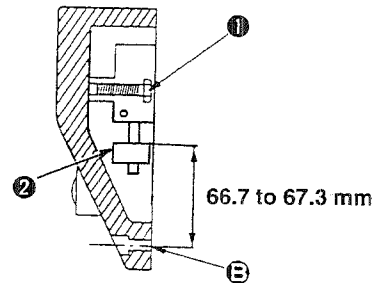
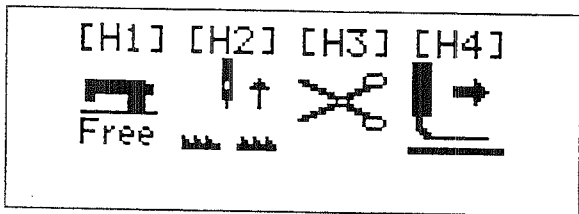
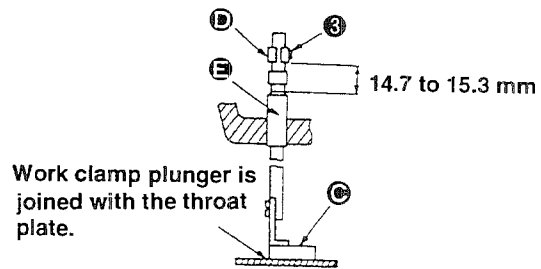

Fig. 3
Fig. 2 Sewing machine adjusting mode (1)
Fig. 4
<p>1) Turn ON the main power to the machine. Press M (mode screen key) on the operation panel. Then select pictgraph No. [MH] (sewing machine adjusting mode) on the mode selection screen.</p> <p>(Caution) While the operation panel is being operated (mode indication LED lights up), [MH] is not indicated. At this time, press machine ready key  to make the standby state (mode indication LED goes off). (Refer to Fig. 1.)</p> <p>2) Select the [H4] work clamp retreat key to move the work clamp away from the work clamp plunger section. (Refer to Fig. 2.)</p> <p>3) Confirm that the bottom of the work clamp plunger is spaced 18.5 to 19 mm from the top surface of the throat plate and approximately 0.5 mm from the tip of the needle.</p> <p>4) If the work clamp plunger is not positioned as described in the aforementioned step 3), set the [H1] key to the adjusting state (lamp flashes on and off). Then press  key to lower the work clamp plunger.</p> <p>5) Remove the face plate cover. Then press the R key to retract the air cylinder in the face plate cover. At this time, adjust screws ① and ② so that the tip end metal fitting of the cylinder is spaced 66.7 to 67.3 mm from center ③ of the tapped screw in the face plate cover. (Refer to Fig. 3.)</p> <p>6) Confirm first that work clamp plunger ④ is joined with the throat plate by the spring pressure given by the intermediate presser. Then, Adjust screw ⑤ so that the bottom end of presser bar position bracket ⑥ is spaced 14.7 to 15.3 mm from the top end of the presser bar lower bracket ⑦. At this time, slot on presser bar position bracket ⑥ should be faced toward you. (Refer to Fig. 4.)</p> <p>7) Set the [H1] key to the adjusting state (lamp flashes on and off), then press  key to extend the air cylinder. Then, attach the face plate cover to the machine arm. (Refer to Fig. 5.)</p> <p>8) Press the R key, and check the adjustment value of step 3).</p>	<p>1) If the work clamp plunger fails to go up sufficiently, the work clamp of the conveyor will interfere with the work clamp plunger.</p> <p>2) If the work clamp plunger goes up excessively, the top end of the needle will protrude from the bottom of the plunger. In this case, the needle tip will interfere with the work clamp of the conveyor, resulting in needle breakage.</p> <p>3) If the face plate cove is positioned outside the specified range of dimension 66.7 to 67.3 mm, the work clamp plunger will fail to go up to the specified height with accuracy.</p> <p>4) If the presser bar position bracket is attached to a position where the distance between the presser bar position bracket and the presser bar lower bushing exceeds 15.3 mm, the presser bar position bracket may interfere with the needle bar crank rod while the sewing machine is in operation.</p>